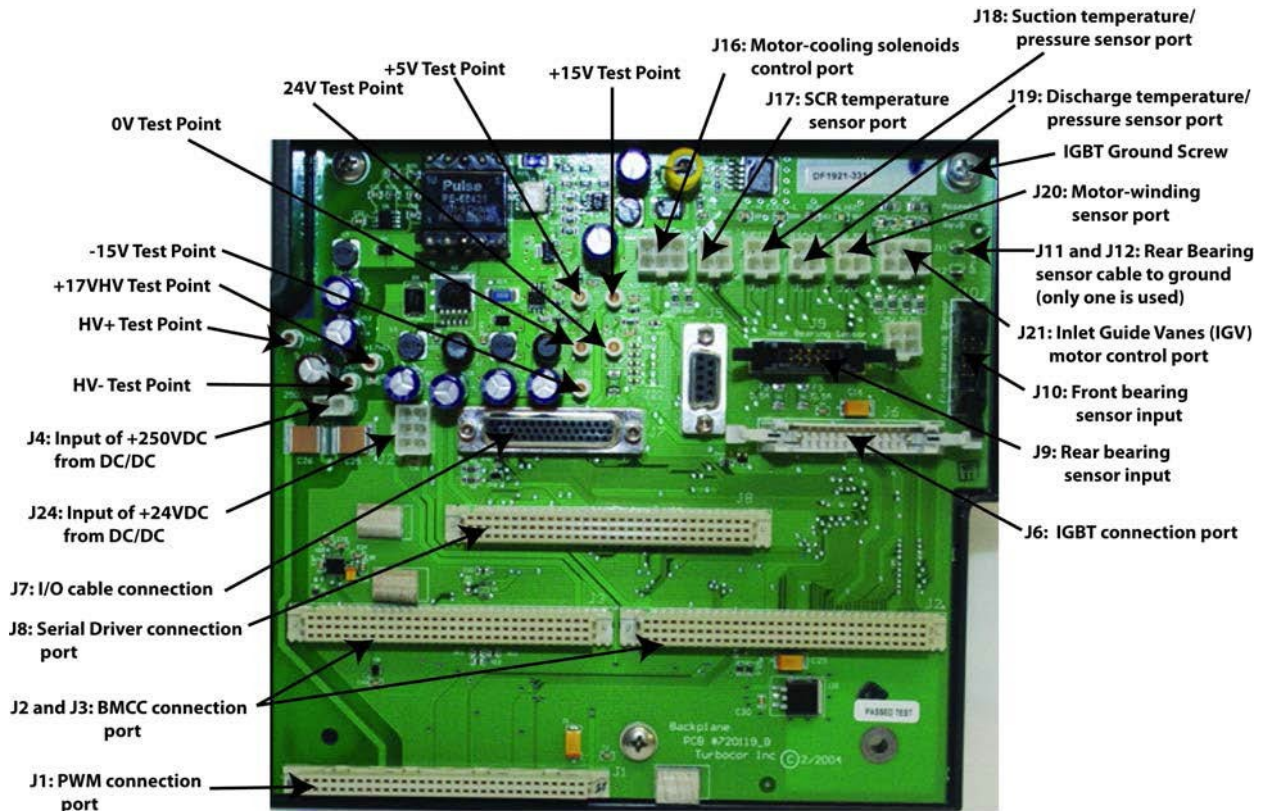

Figure 8 - Backplane Connections
4. Connect all connectors to their appropriate locations. See Figure 8.
5. Remove the Inverter ground screw from top right of the Backplane. See Figure 8.
2. Slide the BMCC straight into the connector until firmly seated in the Backplane connector J2 and J3. See Figure 8.
2. Slide the Serial Driver onto the J8 connector on the Backplane. See Figure 8.